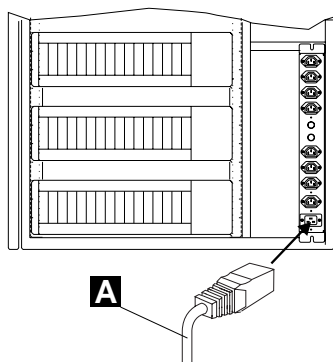

Figure 1-59. Power Cord for Power Strip
22. ____ If it is not already plugged, connect the main power cord **A** coming from the ac outlet distribution box to the **220V** customer's **receptacle** (refer to Figure 1-59).